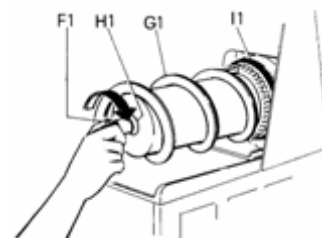

Fig. 28
14. Unscrew the fastening knob F1 clockwise as the direction indicated by the arrow (threading to the left) and proceed by extracting the spiral scraper G1 and the seals H1 and I1. Clean the individual parts thoroughly (fig.28).
- apply a copious amount of Vaseline (supplied with the machine) to the suction cup seal H1 (on the part that comes into contact with the evaporator K1) and insert it in its spiral seating (fig.28);
- remount the spiral scraper G1 (fig.28);
- fasten all the components in place by screwing the knob F1 counter-clockwise (fig.28).